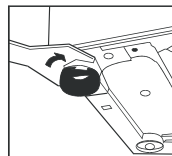

Fig 3
Remove the filter by turning counterclockwise; (Fig3)
- Adjusting the position of the washing machine. There are adjustable feet under the bottom of the washing machine. Before use, the washing machine should be adjusted, as shown in figure 3, so that it is level.